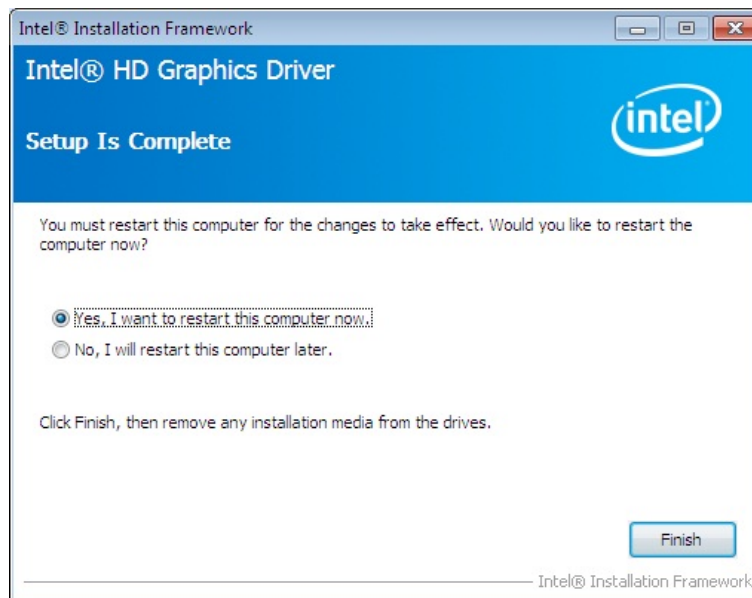

Figure 6-12: Graphics Driver Installation Finish Screen
Step 11: The **Finish** screen in Figure 6-12 appears.